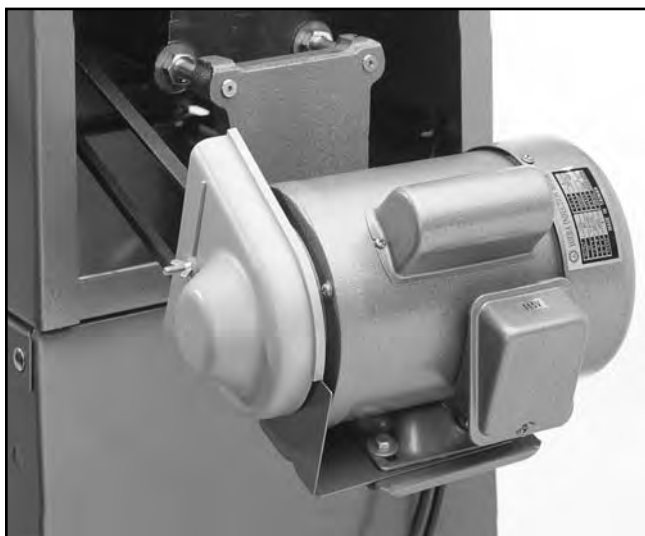

Figure 20. Attaching the pulley guard.
8. Slip the pulley cover spacer over the pulley cover mounting bolt and fit the plastic pulley cover in place. Secure it with the wing nut provided as shown in **Figure 20**.